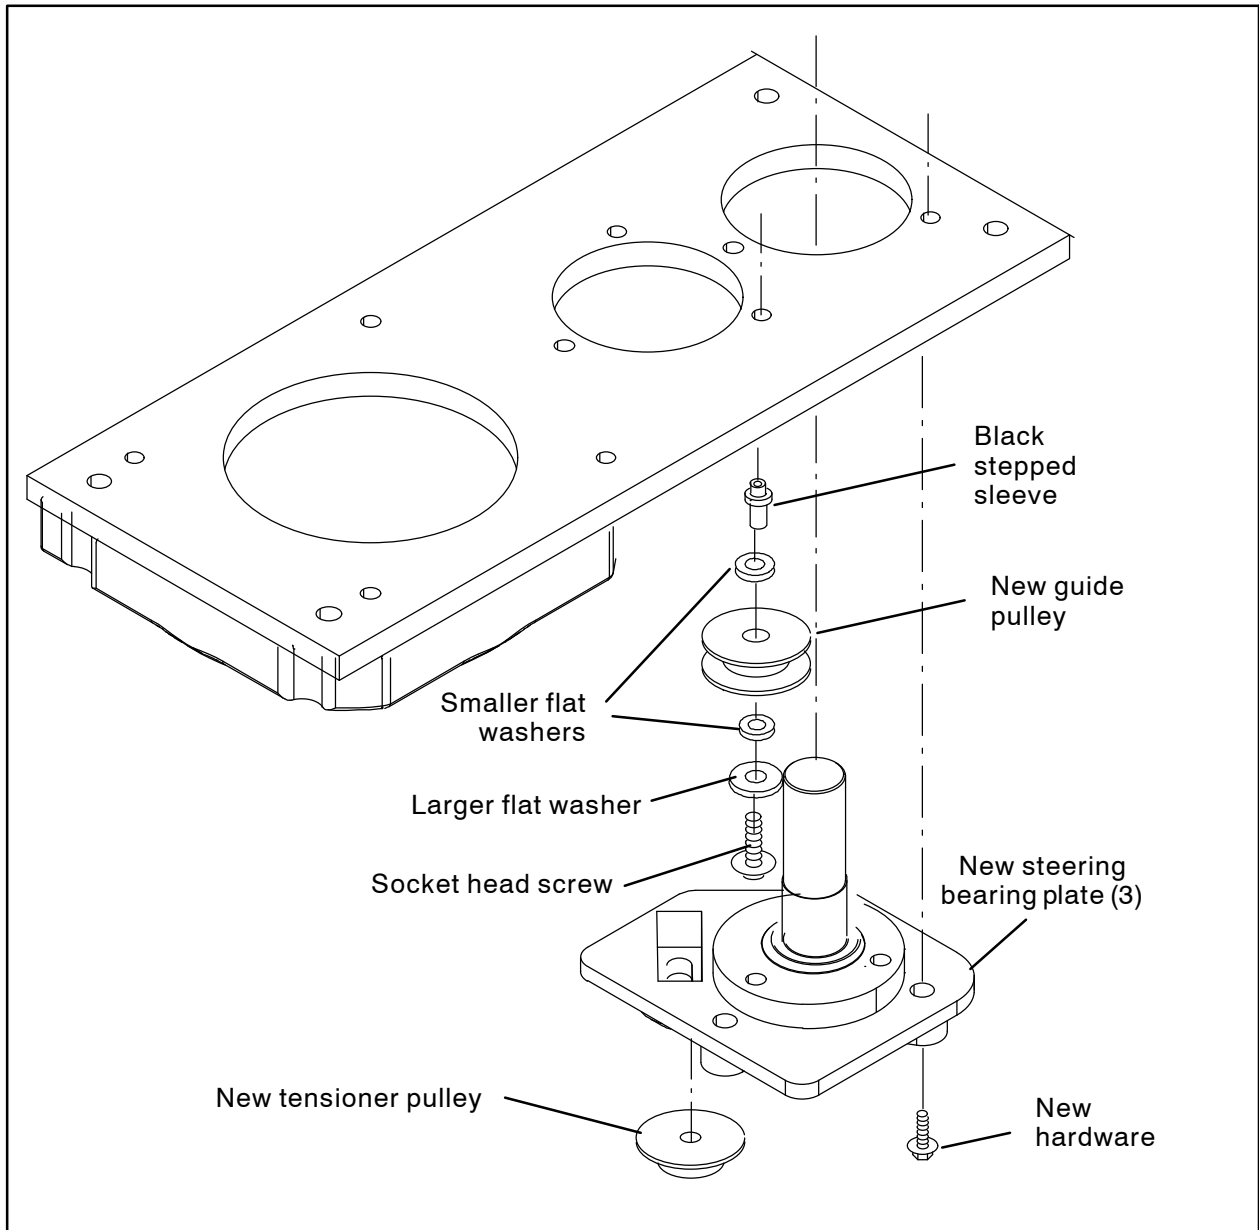
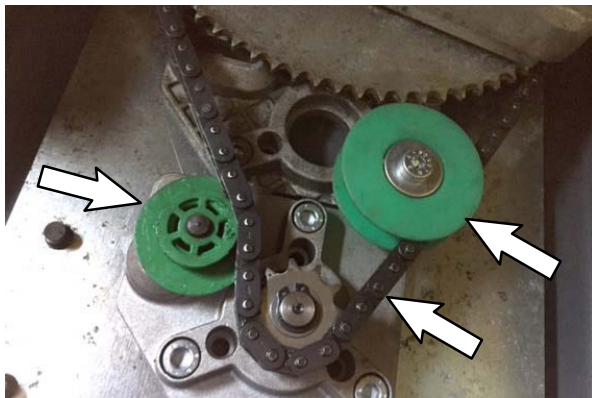
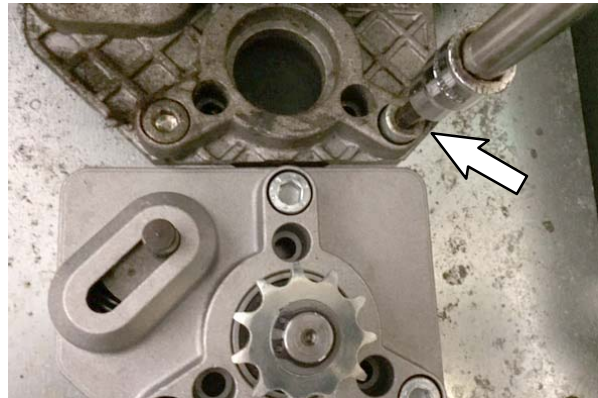

FIG. 19
FIG. 21
FIG. 22
22. Hold the new tensioner pulley onto the steering bearing plate (3) and reinstall the steering chain. (Fig. 21)
23. Remove and discard the existing socket head screw. Use the new socket head screw, larger flat washer, two smaller flat washers, and the black plastic sleeve included with the new steering bearing plate (3) to install the new guide pulley onto the machine. Tighten the hardware to 18.5–24 Nm / 13.6–17.7 ft lbs. (Fig. 19 / Fig. 21 / Fig. 22)